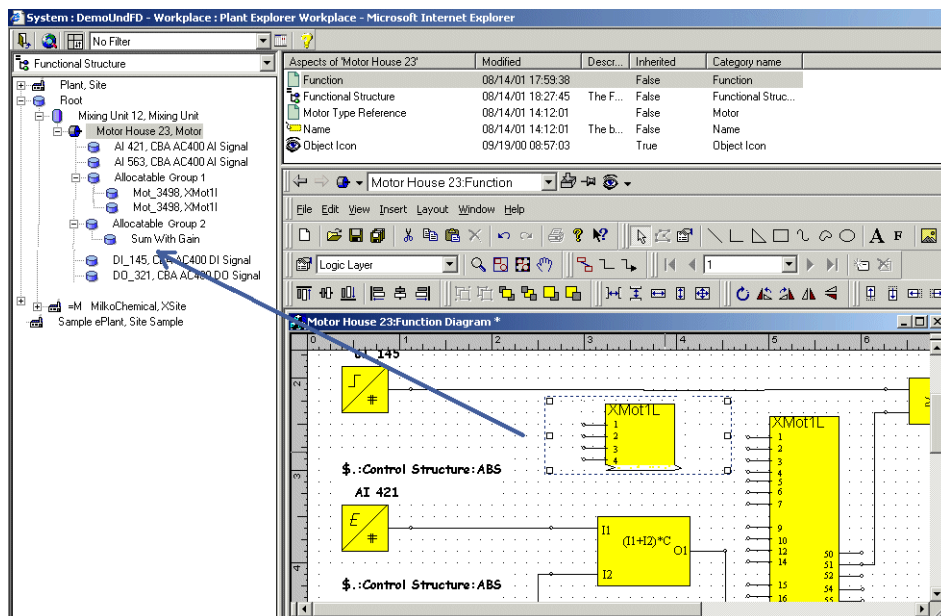

Figure 296. Copying Inside Function Designer
- If you copy and paste function components inside a function diagram (Diagram view), the function components are assigned to the active allocatable group (see Figure 296)